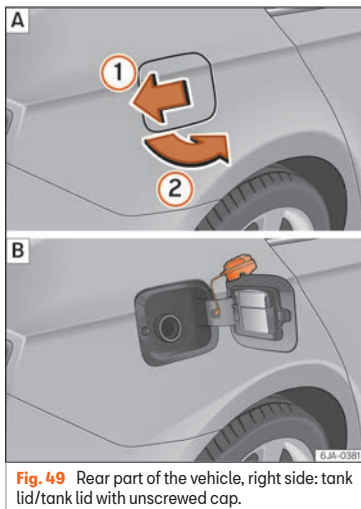

Fig. 49 Rear part of the vehicle, right side: tank lid/tank lid with unscrewed cap.
- Press the fuel tank flap in the direction of the arrow ① »» Fig. 49 A and open it in the direction of the arrow ②.
- Rest it on the upper part of the fuel tank flap »» Fig. 49 B.